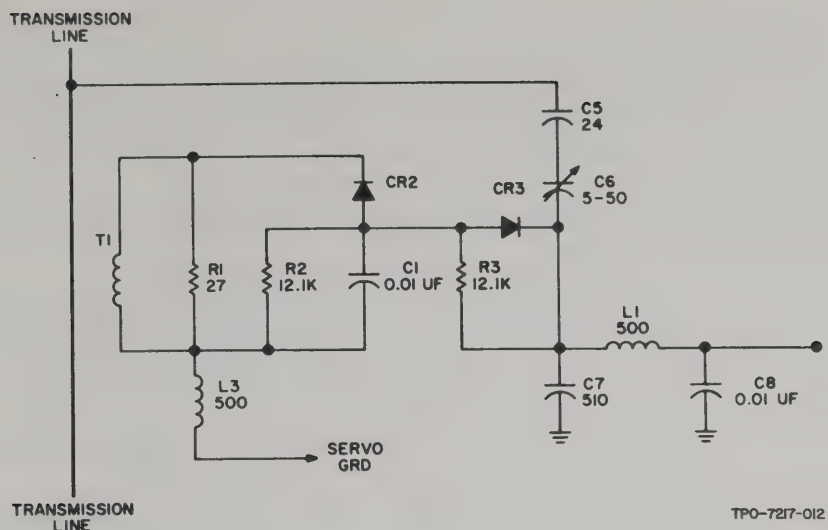

Figure 3-14. Loading Discriminator, Simplified Schematic Diagram.
3.6.2 Loading Discriminator (Refer to figure 3-14.)